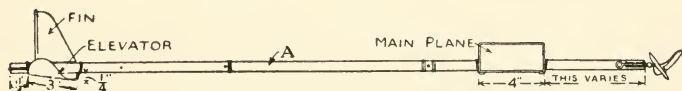

FIG. 36. — Side Elevation (without Rubber Motor).
**The Elevator**, or front plane, has a framework made as shown in Fig. 41. Its entering-edge is a stick, and its following-edge, ribs, and end tips, are made of No. 16 gauge aluminum wire. You will notice by Fig. 41 that the center ribs cross the following-edge of the frame and are bent up in the form of a flat loop. This loop rests against the under side of the fuselage, and gives the elevator its proper angle for stability (Fig. 36). The tips are bent up to add stability.
The main plane and elevator are held to the fuselage by means of rubber-bands slipped beneath them and over the fuselage, and unlike the planes of the majority of models, are fastened to the under side of the fuselage. Figure 36 shows the approximate position of the elevator. That of